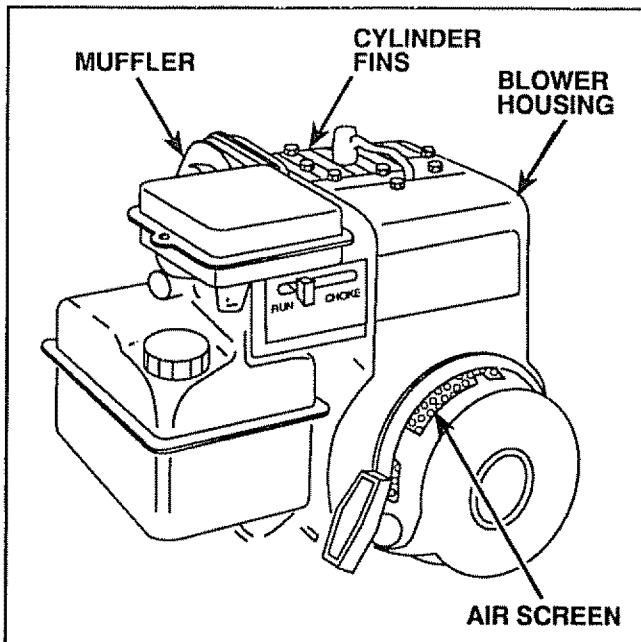

FIGURE 21
- Clean Air Screen (Fig. 21) frequently using a stiff bristled brush.
Do not operate Tiller without Muffler (Fig. 21). Do not tamper with exhaust system. Damaged Mufflers or Spark Arresters could create a fire hazard. Inspect periodically and replace if necessary. If your Engine is equipped with a Spark Arrester Screen Assembly, remove every 50 hours for cleaning and inspection. Replace if damaged.